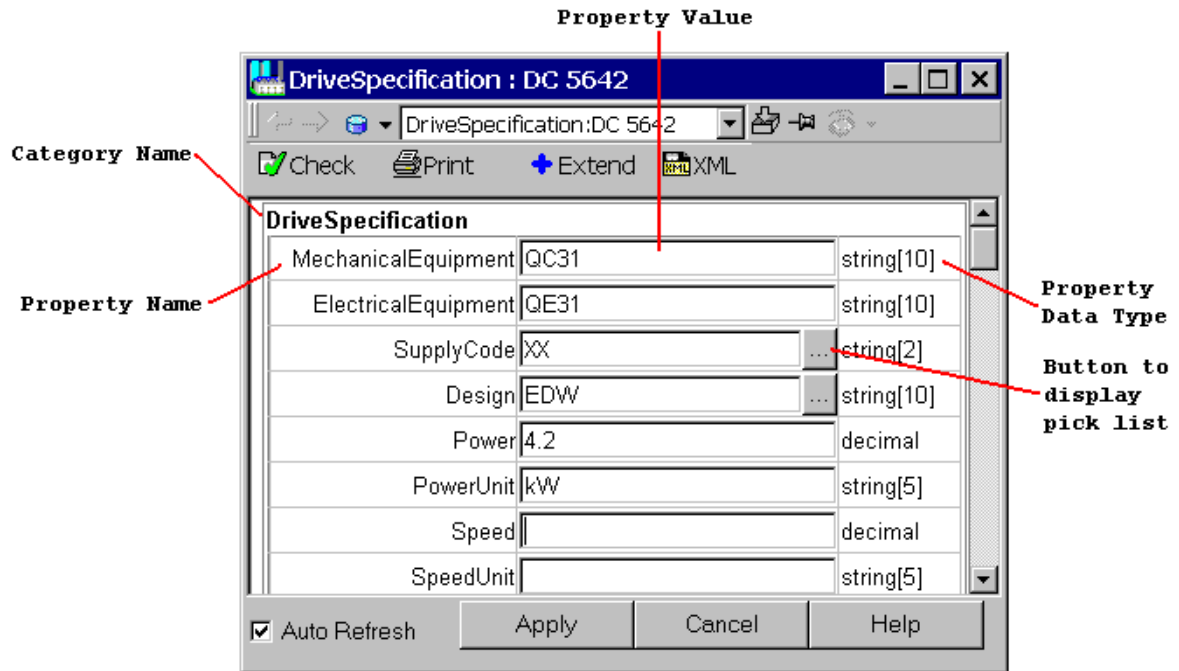

Figure 104. User Interface Overview
- additionally, in connection with the **Open** command on Parameter aspects - **Aspectview Area** - user gets in an Excel like bulk data sheet the instance data of the selected Parameter. If user clicks **Show All**, all Parameter aspects (of that selected category) included in the start object (all the children) of the current Structure is displayed. The following Figure 104 shows an example for